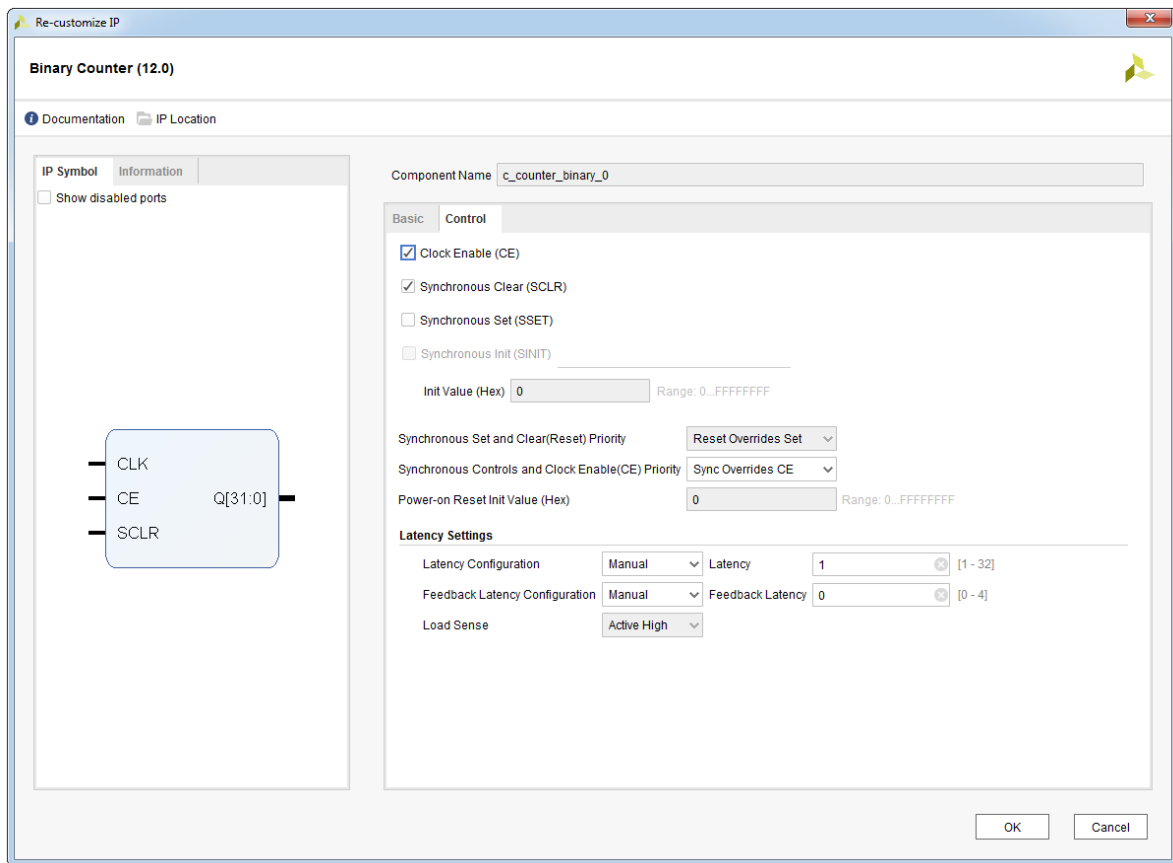

Figure 3.6: Binary Counter (12.0) re-customization IP dialog box - Control tab
- enable **Clock Enable (CE)** and **Synchronous Clear (SCLR)** options, see Figure 3.6 and click **OK**.